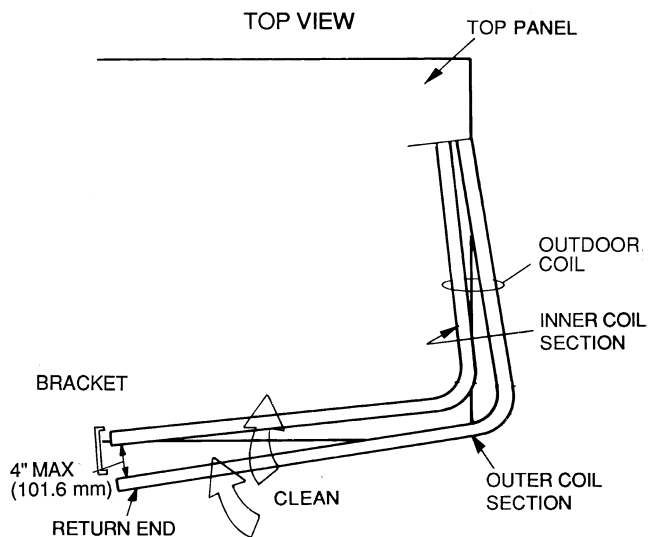

Fig. 16 — Separating Coil Sections
4. Remove bracket holding coil sections together at return end of outdoor coil. Carefully separate the outer coil section 3 to 4 in. from the inner coil section. See Fig. 16.